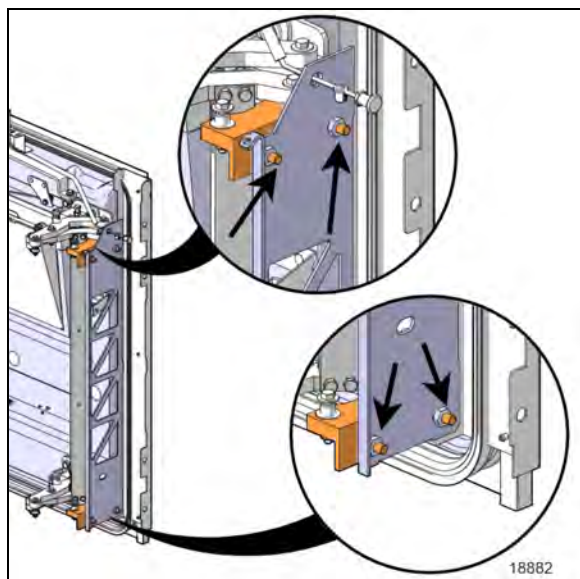

FIGURE 129: "Y" DIRECTION ADJUSTMENT SCREWS
18. For the "Y" direction, on the hinge side, loosen the screws shown in Figure 129 to allows adjustment.